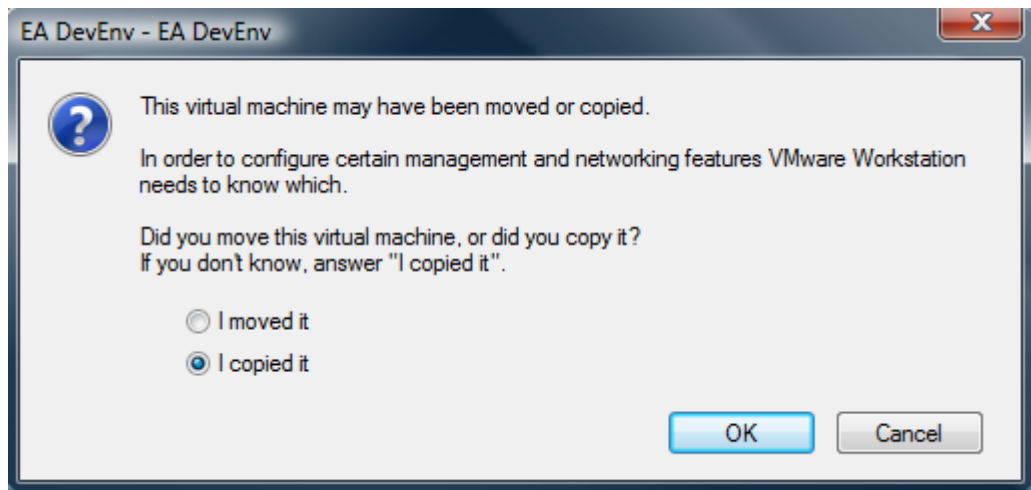

Figure 6 Moved or Copied VM
4. When the VMware Player starts you will be prompted with a question asking you if the virtual machine was moved or copied, see Figure 6 below. Select “I copied it” and click OK. This screen will only appear the first time the virtual machine is started.